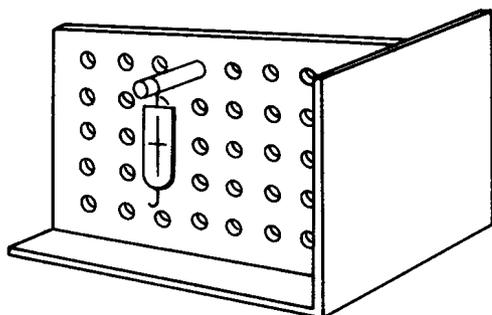

Figure 5-3
1. Attach the spring scale to the pegboard support as shown (Fig. 5-3). Check to see that the pointer is at the zero position.